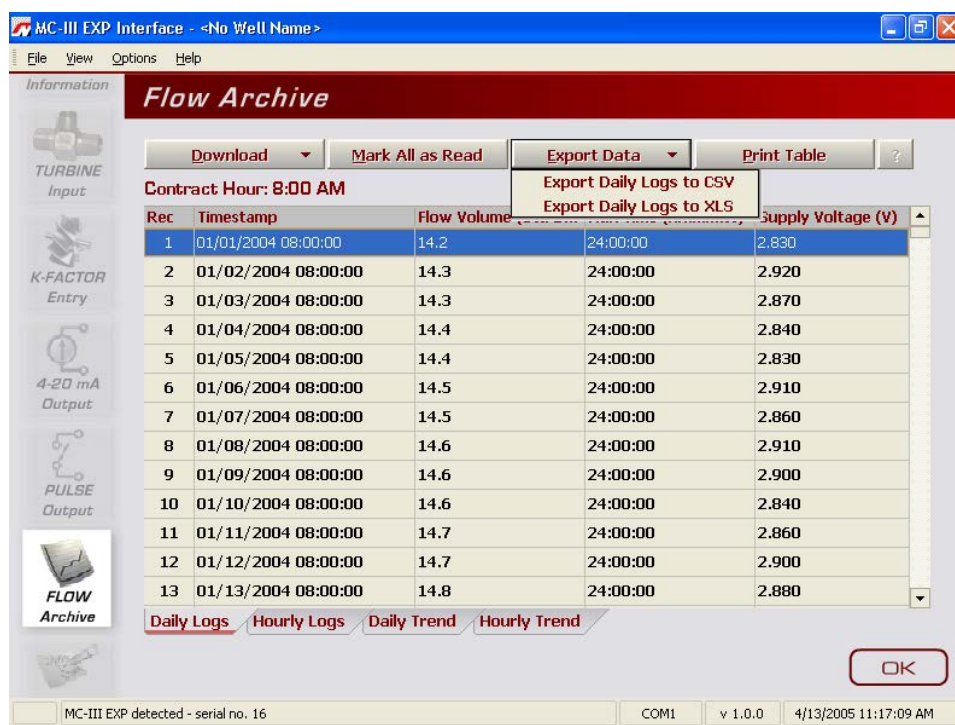

Figure 5.12—Dropdown menu for exporting log data
1. Click the “Export Data” button near the top of the Flow Archive screen and select the .xls or .csv format (Figure 5.12).